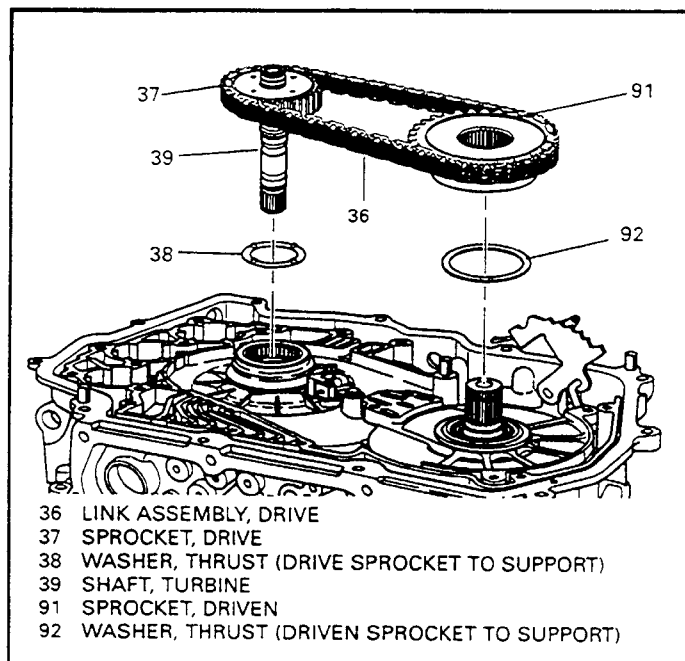

Figure 65
58. Remove the drive sprocket, driven sprocket and drive chain assembly, as an entire unit as shown in Figure 65.
59. Remove the drive sprocket to support thrust washer (38) if it did not remain with the drive sprocket assembly (See Figure 65).
60. Remove the driven sprocket to driven sprocket support thrust washer (92) shown in Figure 65.